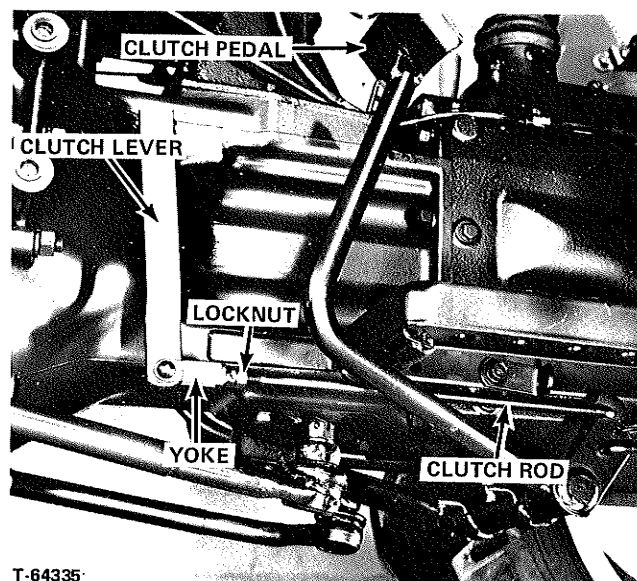

FIGURE 36 - L.H. Side View
**ENGINE CLUTCH PEDAL ADJUSTMENT (Figure 36)**